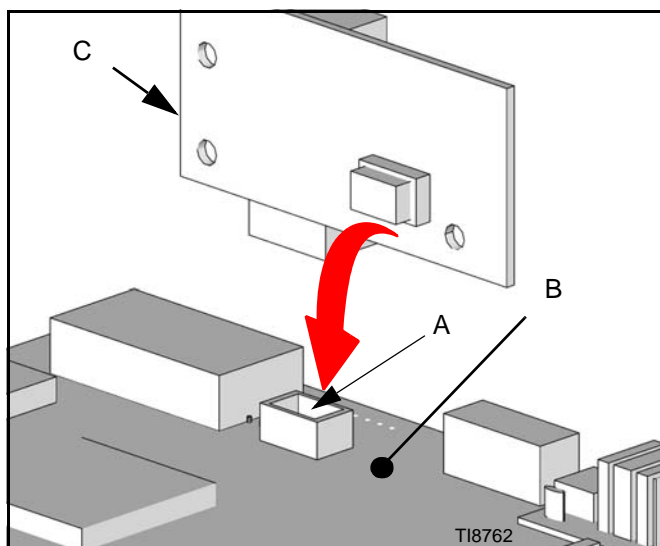

FIG. 41
4. Locate the 10 pin Expansion Connector J9 (A) on the lower right of the EasyKey Display Assembly 249480 (B). See FIG. 41.